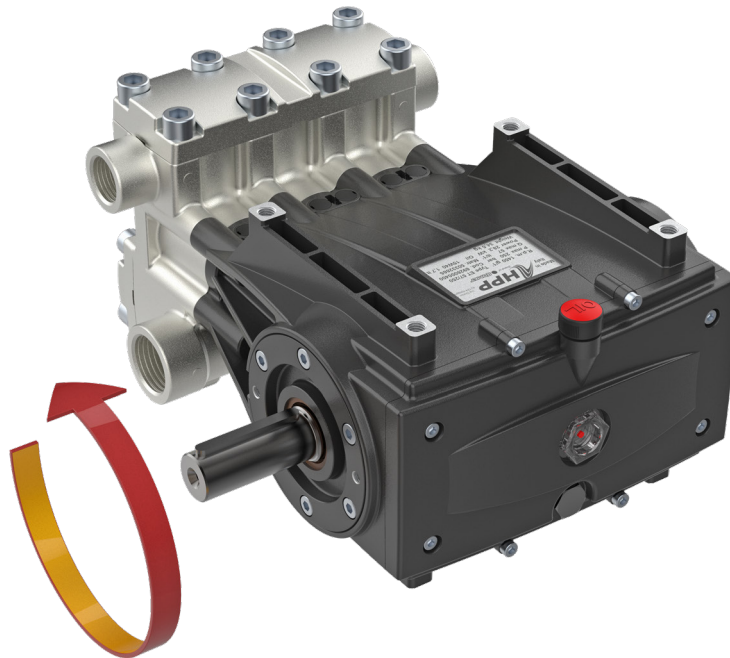

Fig. 6
- Keep to the exact direction of rotation as indicated in the illustration (Fig. 6):